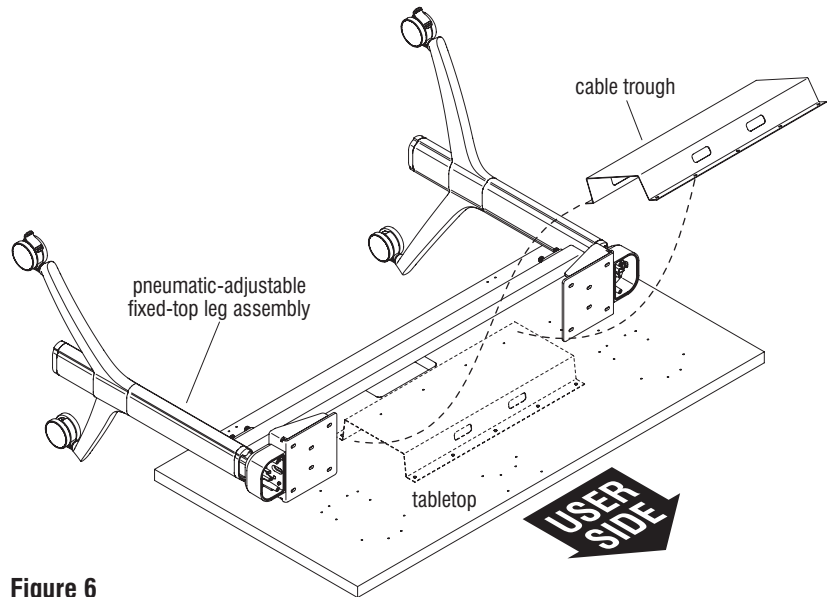

Figure 6
14. Position the cable trough over the tabletop underside as illustrated, with the two smaller rectangular openings in the trough facing the user side of the table. Align the cable trough mounting holes with the pre-drilled holes in the underside of the tabletop (Figure 6).